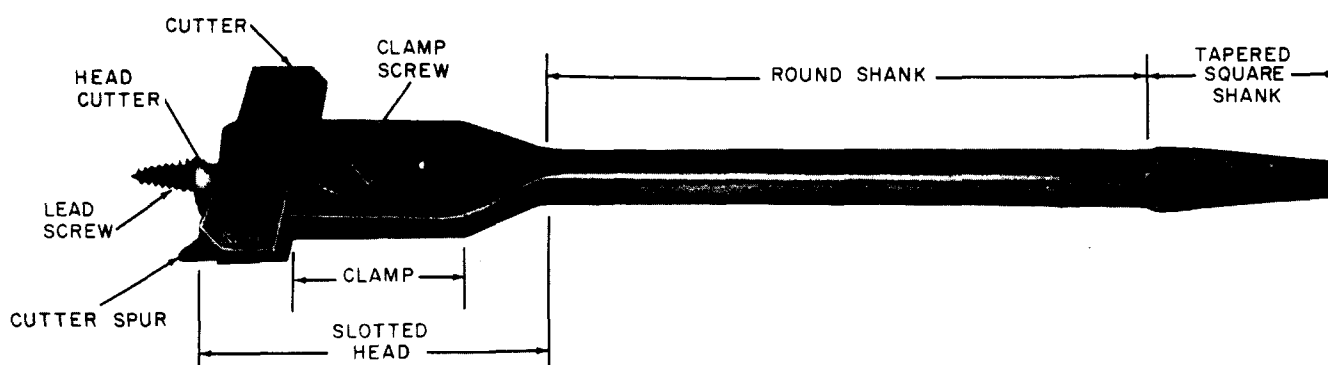

Fig. 4 — Expansive Bit
2.11 The expansive bit (Fig. 4) consists of a tapered square shank and round shank terminating in a slotted head having a lead screw,